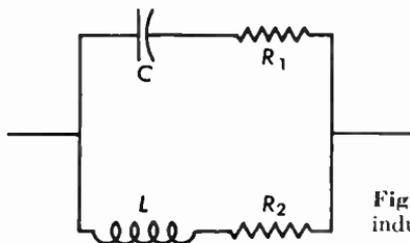

Fig. 3.20 Capacitive-resistive and inductive-resistive branches in parallel.
**3.20** In Figure 3.20,  $C = 506$  micromicrofarads,  $R_1 = 70$  ohms,  $L = 87$  microhenries,  $R_2 = 50$  ohms and  $f = 1.5$  megacycles. Find the equivalent series circuit, the absolute value of the impedance, and the phase angle.